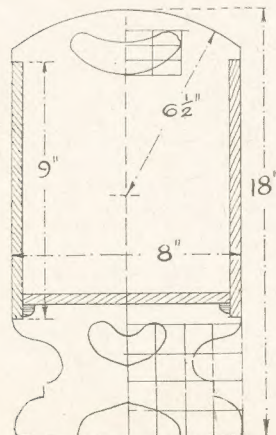
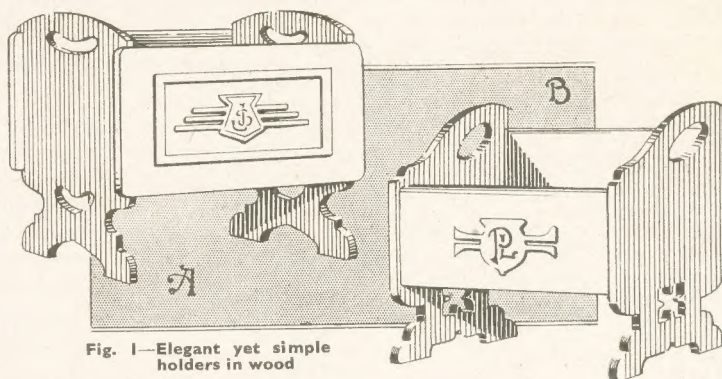
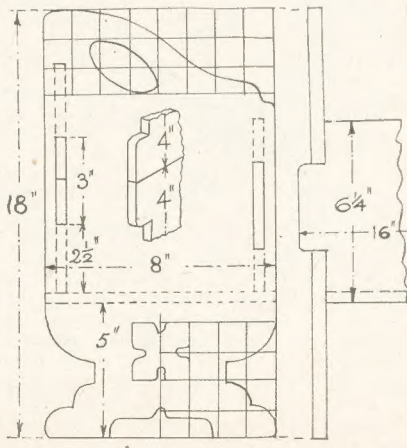

Fig. 2 — End view with dimensions
Fig. 1—Elegant yet simple holders in wood
Fig. 4 — Squared alternative shape
The illustrations in Fig. 1 give a good idea of the stands, and we will first describe that shown as (A). The two ends are of  $\frac{1}{2}$ in. wood, and their outline can be drawn from the detail, Fig. 2. A plain oblong of wood is first cut measuring 18ins. by 8ins., and a centre line should first be drawn down its centre as shown.
The sides of the stand (see Fig. 2) are recessed into the upright edges of the ends. The sides are shown shaded in the diagram, and are let in  $\frac{3}{8}$ in.—the full thickness and the width of the sides.
The second Stand (B, in Fig. 1), is very much like the foregoing and therefore needs but very little explanation. The overall size of this stand is the same but the feet are of slightly different outline as is the tops of the ends. Two boards 18ins. by 8ins. will again be cut, and a number of 1in. squares lined in in two places as shown in Fig. 4.
The same method is adopted for the shaping and interior frets as previously explained. The back of this stand is higher than the front and is best made therefore in two widths of boards glued together. Two boards, each 16ins. long and 4ins. wide, are glued, jointed and tenoned. Then cut one at each end 1in. wide, as the inset detail shows in Fig. 4.
Care must be taken to set out the mortises correctly 3ins. long and  $\frac{3}{8}$ in. wide for both the back and front panels as shown. Set out the position of the floor on each finished end of the stand before these mortises are drawn in; see measurements in Fig. 4.